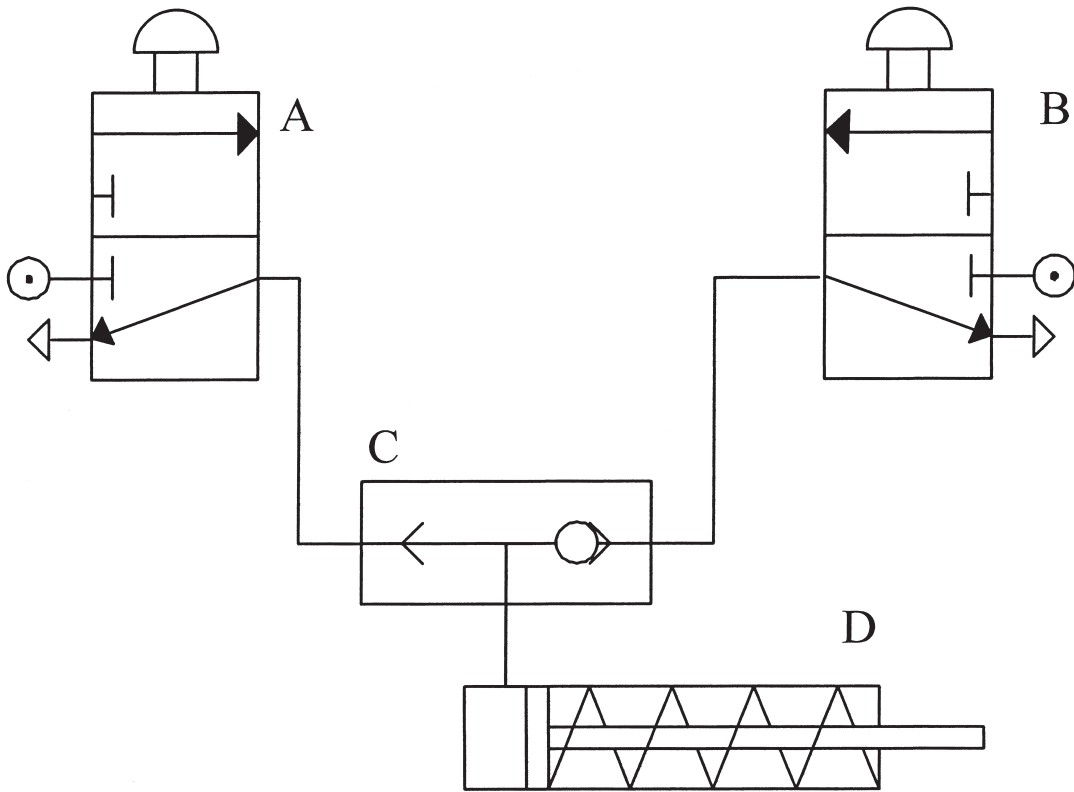

Figure 9
B5 A baggage-handling terminal at an airport has pneumatically controlled doors. The circuit diagram shown in **Figure 9** represents the system used.
- (a) Complete the sentences below to describe what happens in the pneumatic door system shown in **Figure 9**.
In the space below, redraw and modify the pneumatic circuit given in **Figure 9** to allow the door to open quickly and close slowly when either valve is operated.